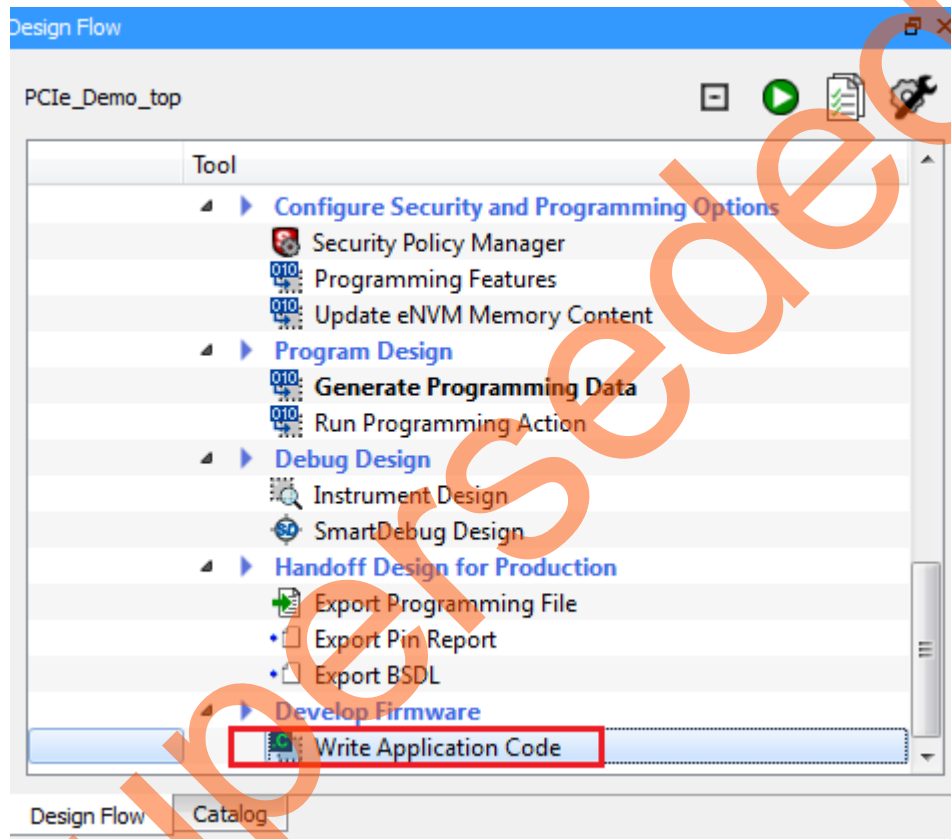

Figure 29 • Invoking a SoftConsole Project
1. To build the firmware eNVM client, click **Write Application Code** in the Design Flow window as shown in Figure 29.